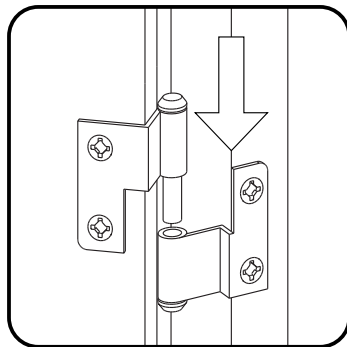

Figure 6
Attach Doors (L) and (M) to unit by sliding door hinges into side panel hinges. (See Figure 6)